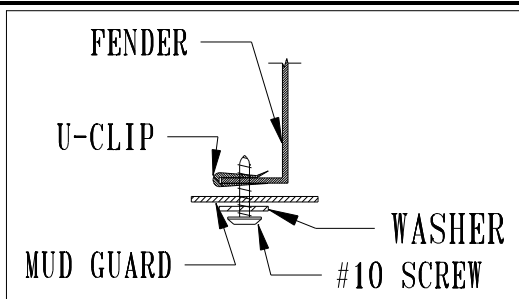

Figure 2
2. Attach mud guard with a #10 screw through mud guard and into the U-Clip, check fit and alignment before tightening (Figure 2).